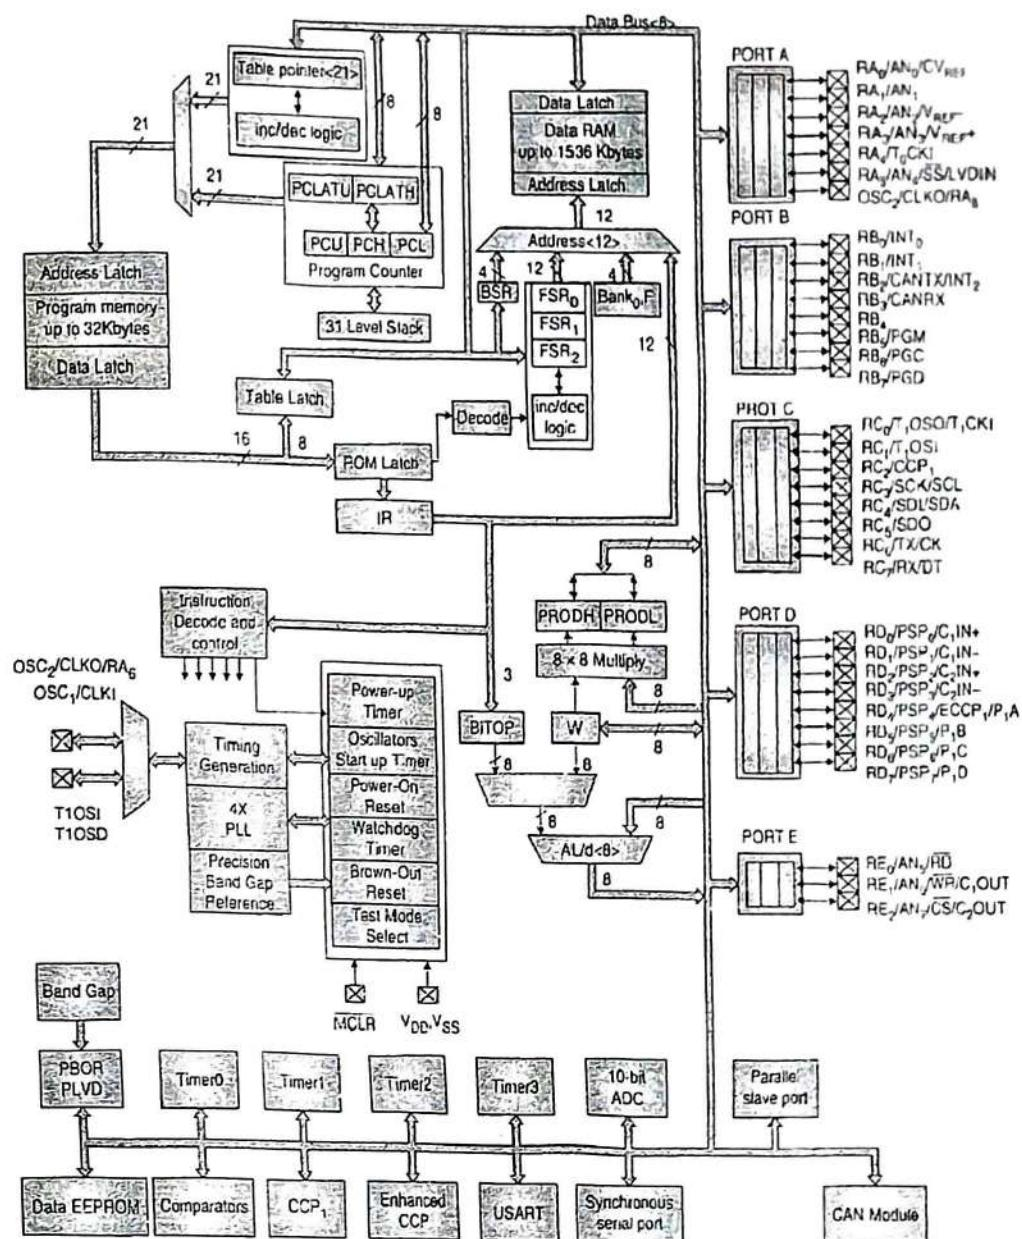

Fig. 1.10.1 : Block diagram of PIC18F458
- The block diagram of the PIC18 family member PIC18F458 is shown in Fig. 1.10.1.
- Fig. 1.10.1 shows the peripheral functions available in the PIC18F458. These will also be discussed in details in the subsequent sections and chapters.
- PIC18F458 has internal 8-bit data bus connecting all the peripherals as shown in the Fig. 1.10.1. Let us discuss each of these blocks along with their associated pins.